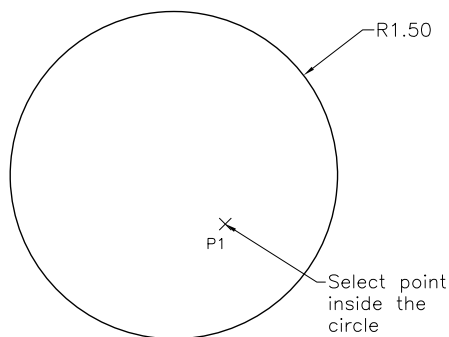
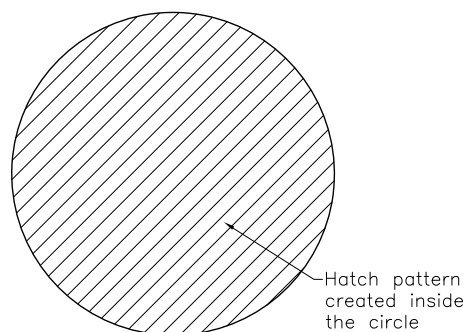

Figure 15-4 Specifying a point to hatch the circle
Figure 15-5 Drawing after hatching
2. Select a point inside the circle (P1) (Figure 15-4) and press ENTER; the hatch is applied, as shown in Figure 15-5.